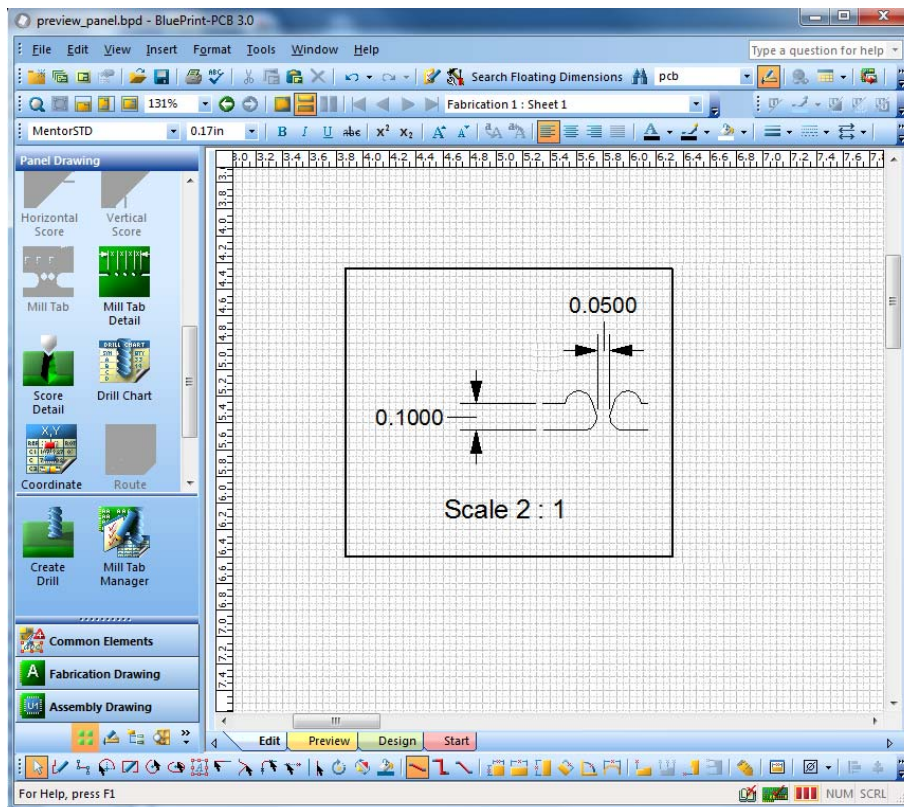

Figure 5. Collapsing Mill Tab Detail Canvas when Board Offset is Zero
Mill tab Details have been updated to support scaling in a manner similar to Exploded View details. Scaling select handles have been added to Mill Tab details to support free hand scaling. A new tab for Size and Position in the Format Mill Tab Detail dialog supports settings and locking of the Mill Tab detail scale. Note that when a Mill Tab detail is scaled, the font size for text in the detail will not be adjusted. When you are in the Edit Detail mode for Mill Tab details, resize select handles are supported to allow resizing of the Mill Tab detail canvas. When you are in Edit Detail mode for Mill Tab details, dimensioning commands will snap to features and measure to scale. Finally, when auto-creating Mill Tab details and the board offset is zero (0), then the right side of the Mill Tab canvas will be collapsed to the mill tab geometry. See Figure 5 below.